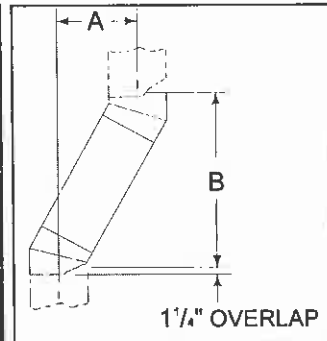

Figure 7 - Chimney Offset/Return
- 1) Measure how far the chimney needs to be shifted to enable it to avoid the overhead obstacle. See Figure 7, dimension "A" to determine chimney sections required to achieve the needed shift.
Example: Your "A" dimension from Figure 7 is 14¹/₂". Using Table 1 the dimension closest to, but not less than 14¹/₂" is 14⁵/₈" using a 30° offset/return. It is then determined from the table that you would need 33" (Dimension "B") between the offset and return. The chimney components that best fit your application are two SL312s.